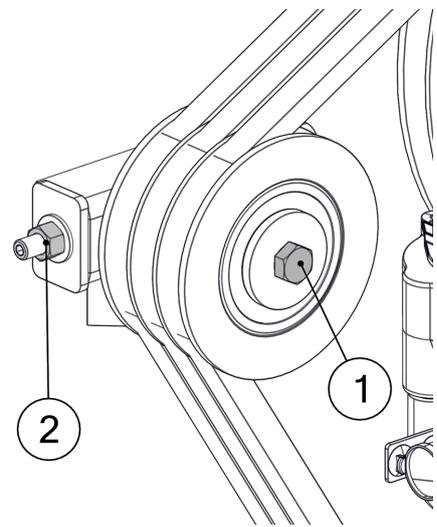

Figure 23 - Tensioner Pulley Assembly
1. Use a 19 mm spanner to loosen the bolt in the centre of the tensioner pulley until the pulley is able to slide with minimal wobble (Figure 23, Item 1).
2. Turn the nut on the end of the tensioner pulley slider until the correct belt tension is achieved (Figure 23, Item 2). (Refer to Section 6.10 "*V-Belt Tensioning Procedure*" on page 58.)